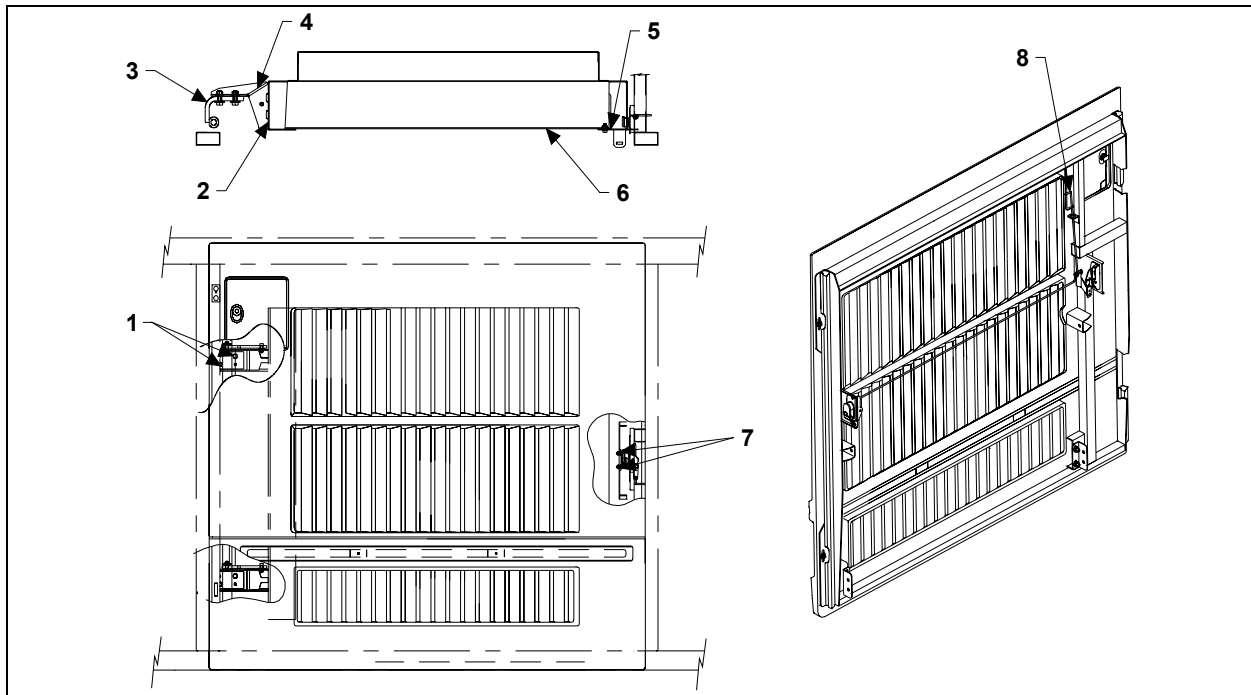
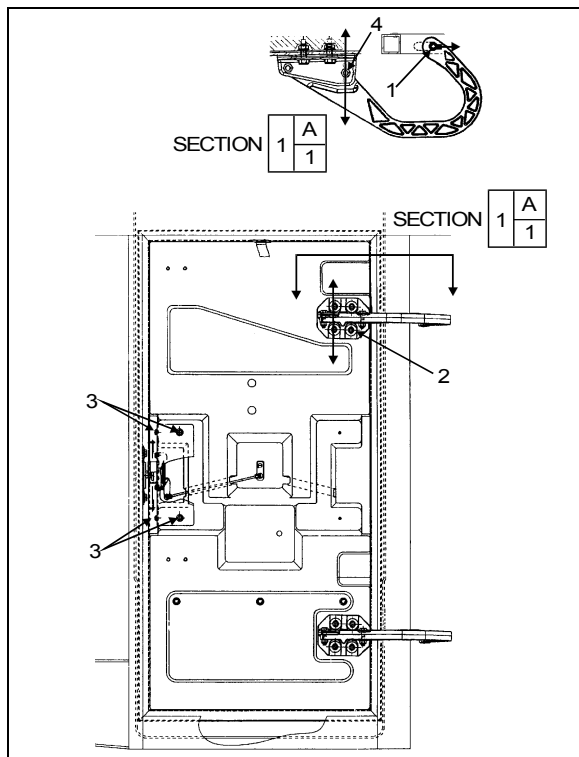

FIGURE 69: CONDENSER DOOR
FIGURE 76: MAIN POWER COMP. DOOR
2. Loosen the nuts (1, Fig. 69) holding the hinge (3, Fig. 69) to hinge attachment (4, Fig. 76). Loosening nuts (1, Fig. 69) allows the condenser assembly to be shifted "LEFT or RIGHT" and "UP or DOWN".
5. Loosen bracket nuts holding the panel to condenser. Panel (6, Fig. 69) may be shifted "IN or OUT", "LEFT or RIGHT" and "UP or DOWN".
6. Adjust condenser panel at brackets (2, Fig. 69) and (5, Fig. 69).
1. Loosen nut (1, Fig. 76).
3. Tighten nut (1, Fig. 76).
4. Loosen nut (4, Fig. 76).
7. Loosen screws (2, Fig. 76). Screws allow the door to be shifted "UP or DOWN".